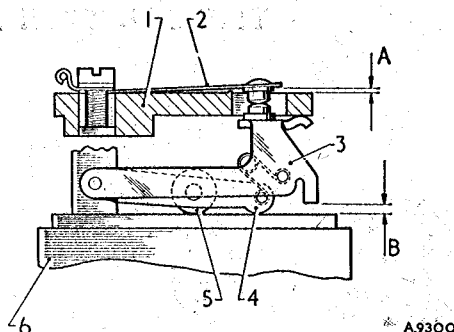

Fig. 13. The rocker finger settings on modified rocker assemblies
30. Check the lift of the contact blade tip above the top of the pedestal (A) (Fig. 13) with a feeler gauge, bending the stop-finger beneath the pedestal, if necessary, to obtain a lift of $.035 \pm .005$ in. ($.9 \pm .13$ mm.).
31. Check the gap between rocker finger and coil housing (B) (Fig. 13) with a feeler gauge, bending the stop-finger, if necessary, to obtain a gap of $.070 \pm .005$ in. ($1.8 \pm .13$ mm.).